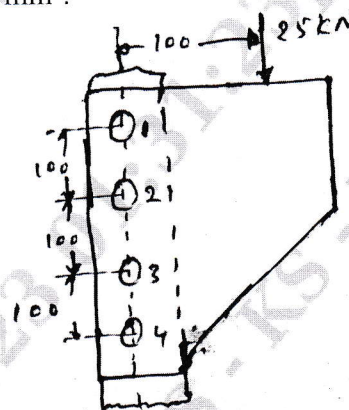

Fig.Q7(a)
7. a. A bracket attached to a vertical column by means of four identical rivets is subjected to an eccentric force of 25 kN as shown in Fig.Q7(a). Determine the diameter of rivets, if the permissible shear stress is  $60 \text{ N/mm}^2$ .